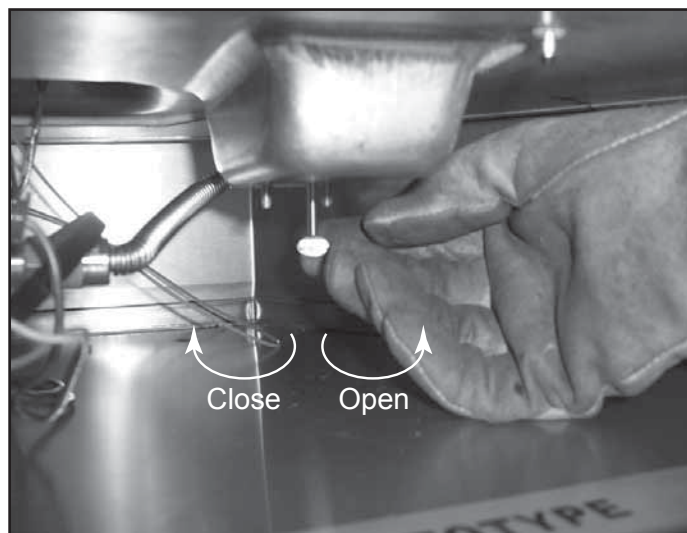

Figure 15.6 Adjusting Air Shutter
- Adjust air shutter for longer vertical runs. See Figure 15.6.